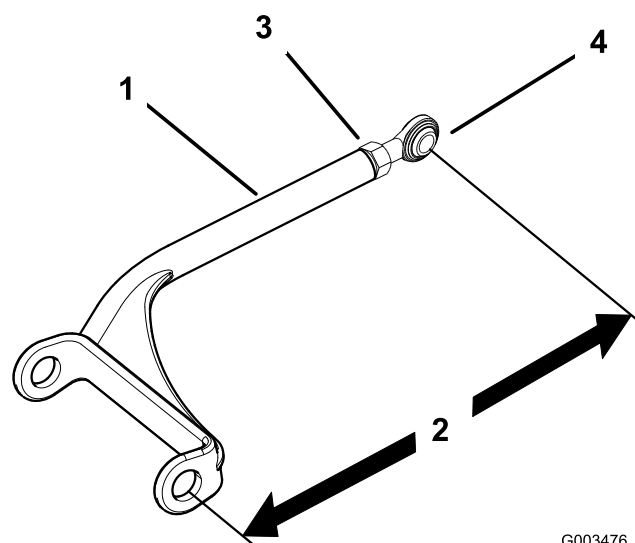

Figure 52
- Loosen the jam nut and rotate the ball joint counterclockwise, one turn at a time (Figure 52).
- Adjust each side the same amount. Each push arm should have a length of 15-1/8 inch (384 mm) (Figure 52).